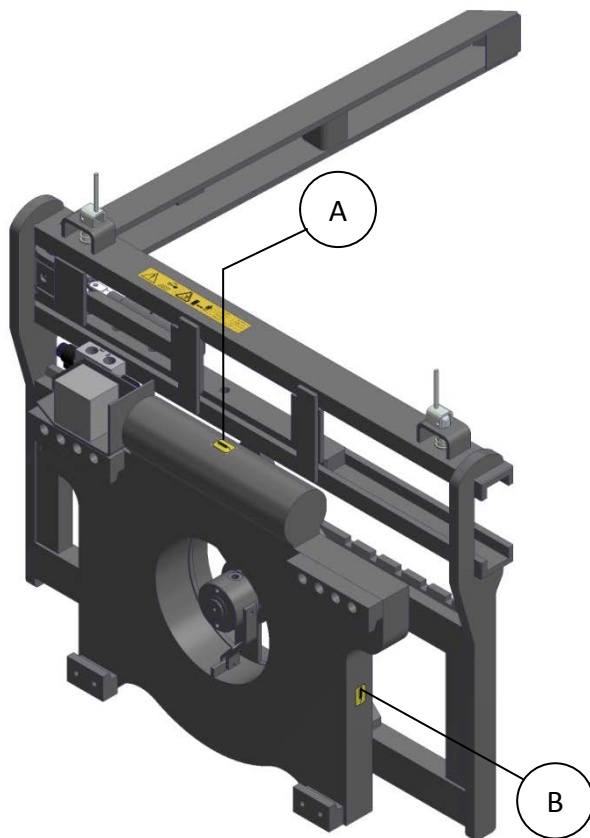

Figure 3.2.1-Placement lubrication points KRM360a en KRM360c
Lubricate the worm wheel (A) and ball bearing (B) through the specified lubrication points. Rotate the rotator slowly during the lubrication process to divide the lubrication over the entire bearing. See also Figure 3.2.1.